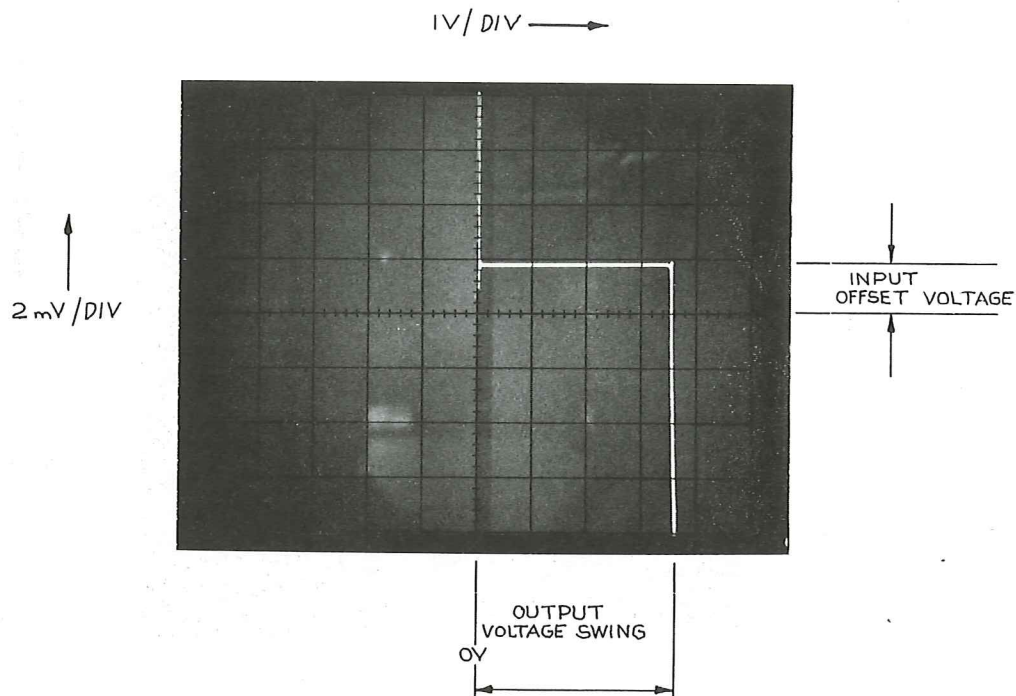

Figure 8. Typical display of input offset voltage and output voltage swing.
- c. Turn SWEEP AMPLITUDE slowly clockwise until the display indicates the +Power Supply level has been reached (right edge of display moves straight down screen). See Fig. 8.
Using the setup, procedure and display in Fig. 8 for input offset voltage test,